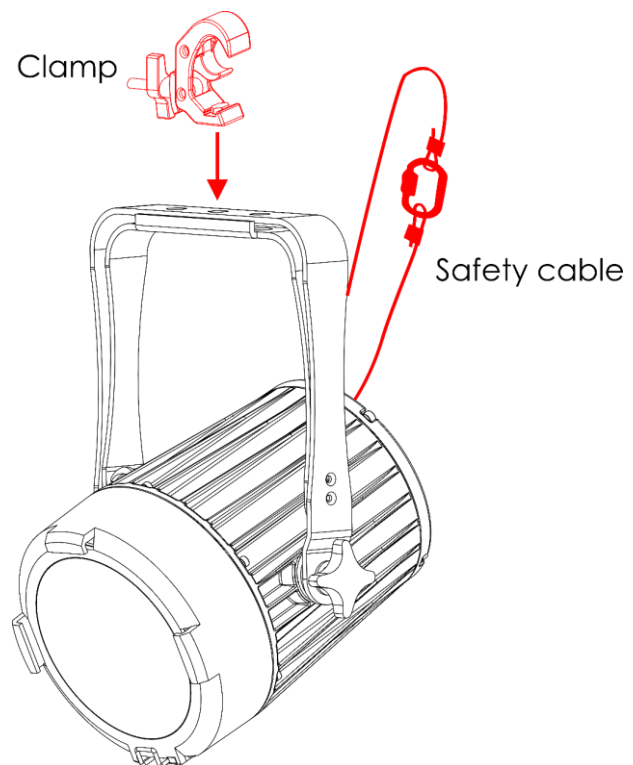

Fig. 08
- 01) Use a clamp to attach the device to the supporting structure, as shown in Fig. 08. Make sure that the device cannot move freely.
- 02) Secure the device with a secondary suspension, for example a safety cable. Make sure that the secondary suspension can hold 10 times the weight of the device. If possible, the secondary suspension should be attached to a supporting structure independent of the primary suspension. Put the safety cable through the **safety eye (07)**, as shown in Fig. 08. You can use the safety cable supplied with the device.